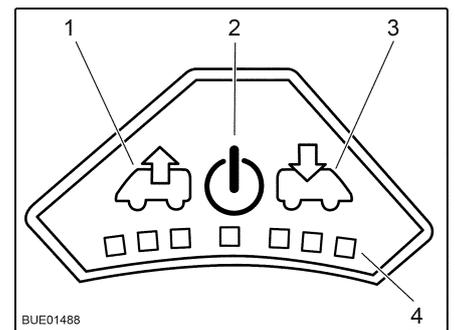

Fig. 79 Control panel for fan
- Press the On/Off button (Fig. 79,2). The fan runs in comfort mode (venting at slowest fan speed).
- To increase the fan speed: Press the Vent button (Fig. 79,1). The fan speed in the venting direction increases by one level. LEDs (Fig. 79,4) show the operating levels.
- To lower the fan speed: Press the Aerate button (Fig. 79,3). The fan speed decreases by one level.
- To increase the fan speed: Press the Aerate button (Fig. 79,3). The fan speed in the aerating direction increases by one step. LEDs (Fig. 79,4) show the operating levels.
- To lower the fan speed: Press the Vent button (Fig. 79,1). The fan speed decreases by one level.
- Press the On/Off button (Fig. 79,2). The fan stops, the LEDs go out.